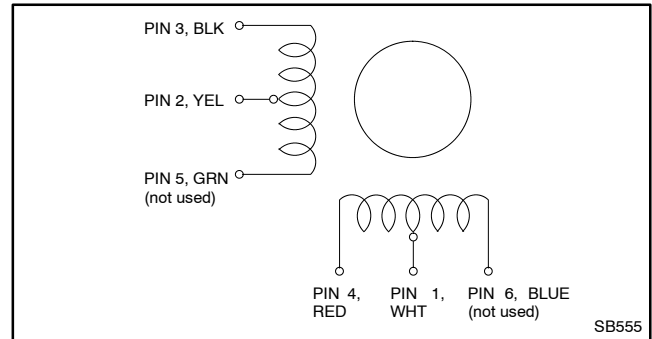

Figure 6-25 Actuator Coil Group
12. Check the stepper motor coil resistance across pins 2 and 3 and across pins 1 and 4. Only two stepper motor leads of each coil group are used (BLK-YEL and RED-WHT). See Figure 6-25. The resistance per half coil is 38.5 ohms. If one of the coils has a significantly higher resistance or is shorted, replace the stepper motor.